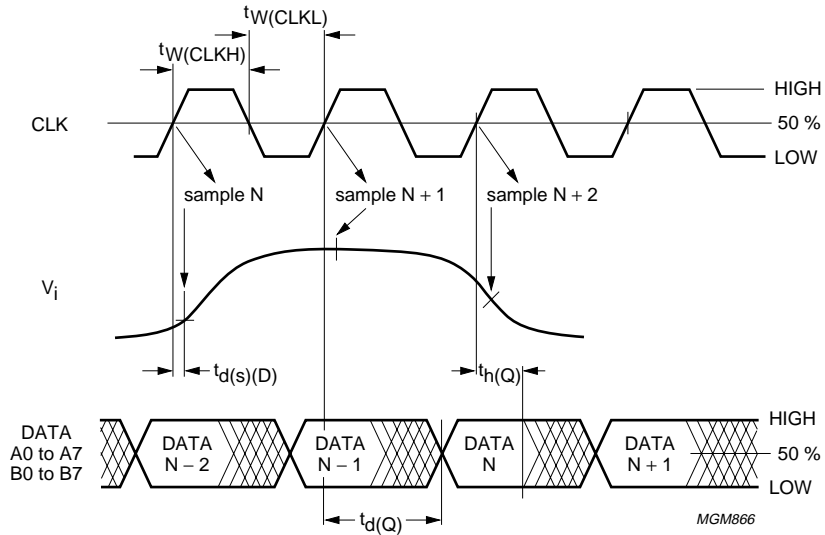

Fig.17 Timing diagram for the ADC.
- When using the Track-and-Hold mode by setting \overline{TE} LOW, the CLK input must never be HIGH for more than $t_{W(CLKH)(max)}$ even at power up to guarantee that the Track-and-Hold will start well. If CLK is set HIGH for more than $t_{W(CLKH)(max)}$ then, to correctly restart the Track-and-Hold, either \overline{TE} has to be set LOW or CLK has to be set LOW for at least 50 ns. By using the application diagram clock input interface, see Fig. 17, the clock is guaranteed to respect the $t_{W(CLKH)(max)}$ timing in all conditions, i.e. at start-up or if the clock is temporarily lost.